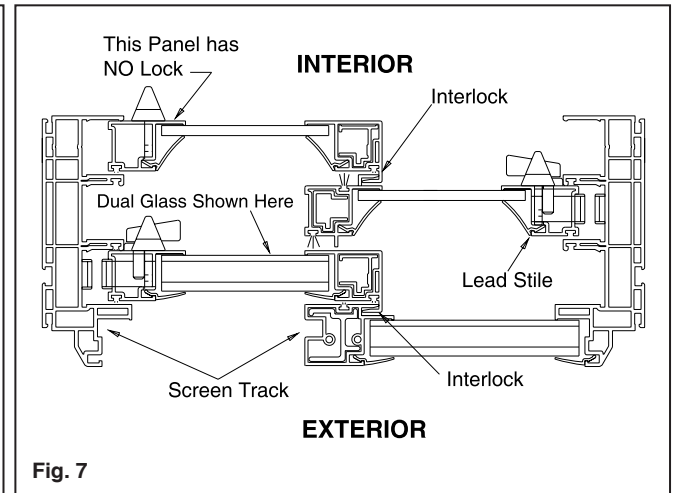

Fig. 7
A. Rolling panels will be installed from the interior. The first panel to go in will be the exterior unit. See **Fig. 7** and **8a, 8b**. With the interlock side of the panel towards the center of the opening and facing outward, lift the panel up into the second channel in the head closest to the exterior. Tuck the bottom of the panel into the matching channel in the sill.
B. The other two panels are installed in the same manner. See **Fig. 8c, 8d**. The second panel will have the locking mechanism installed in the lead stile. This panel should have the interlock in the center of the opening and facing into the room. See **Fig. 7**. The final panel will have the interlock in the center of the opening, facing outward.